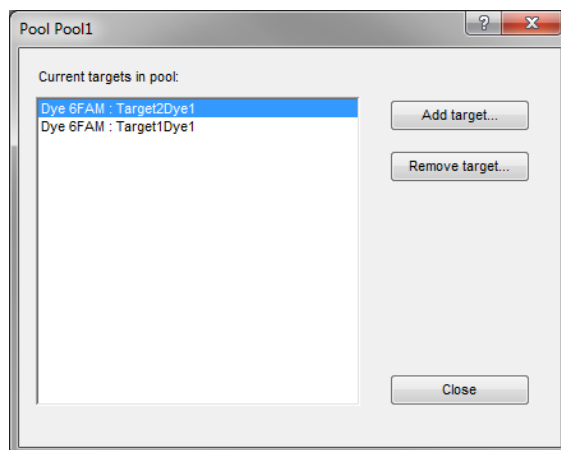

Figure 3.18: The *Pool* dialog box: Two targets are defined for "Pool1".
7.6 If the two targets are defined within the pool (both should be listed along with the dye number, see Figure 3.18), press <**Close**> to finish editing the pool.